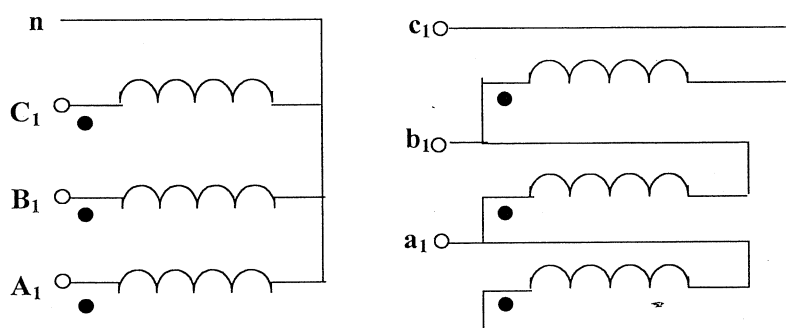

Figure Q8
- c. Figure Q8 shows the winding connections of a three phase transformer. Draw the phasor diagram to show the EMFs in windings and determine the phase shift between primary and secondary EMFs. [8 Marks]